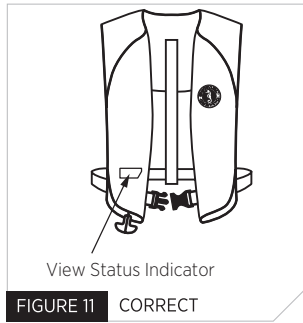

FIGURE 11 CORRECT
3. Make sure the inflator pull-tab is on the outside of the folded PFD. Fig. 11 depicts a correctly folded PFD.